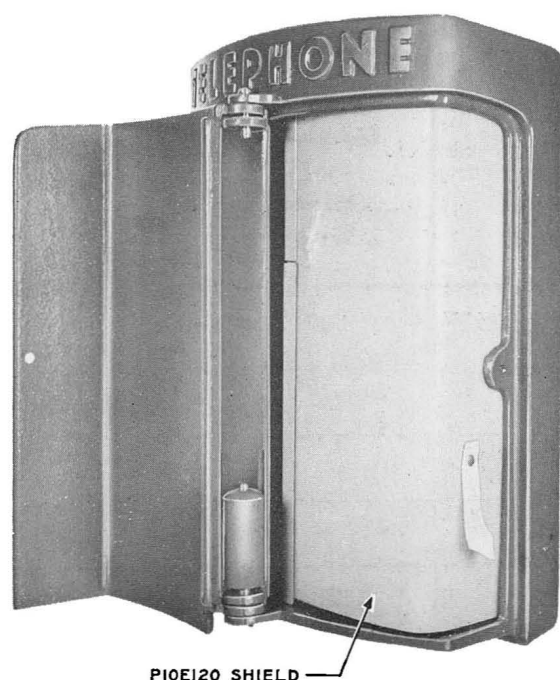

FIG. 3 — PLASTIC WATERPROOFING SHIELD IN PLACE
3.10 A plastic waterproofing shield is provided between the cover and the telephone apparatus unit (see Fig. 3).